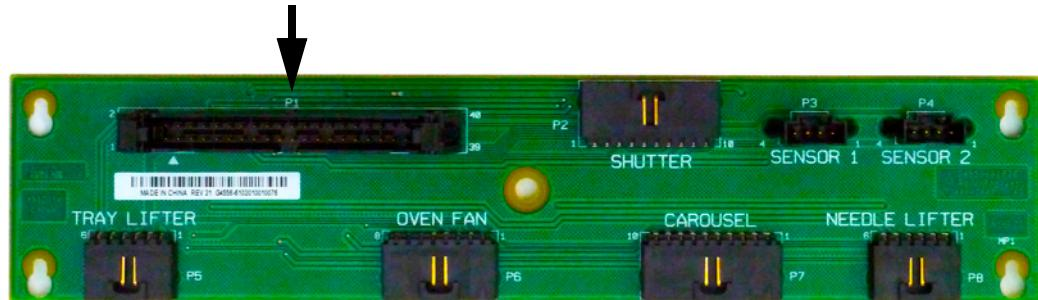

Figure 18 Connect the ribbon cable to P1 on the control board
- 4 Connect the ribbon cable to connection P1 on the control board (Figure 18).